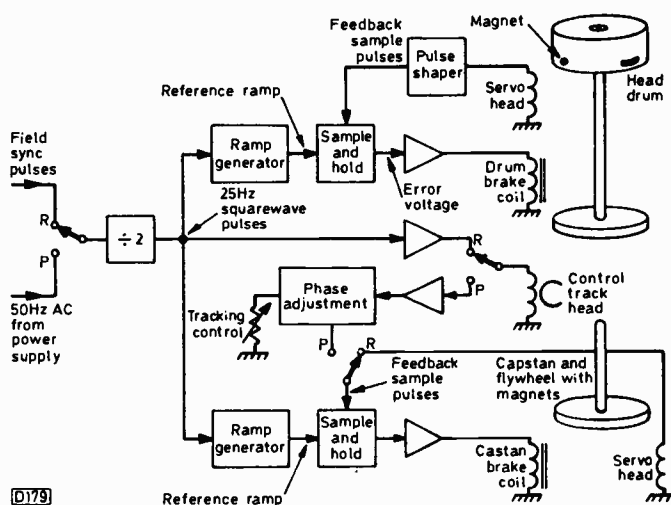

Fig. 19: Servo system used in the Philips N1500 VCR. Note that the control track is at the top edge of the tape in the Philips system.
Fig. 19 shows the N1500's servo system in block diagram form. It's very simple and very effective with, basically, only three things being switched. A 25Hz reference is used on both record and playback. As usual, the field sync pulses provide the record reference, after division by two. On playback the reference signal comes from the power supply, again at 50Hz then divided by two. This division by two is carried out by an astable multivibrator which acts as a voltage-controlled oscillator to the incoming reference signals, providing a 25Hz squarewave output. This output is applied to the control track head on record, meeting requirement (3) above, and is processed to provide ramps for the capstan and head drum